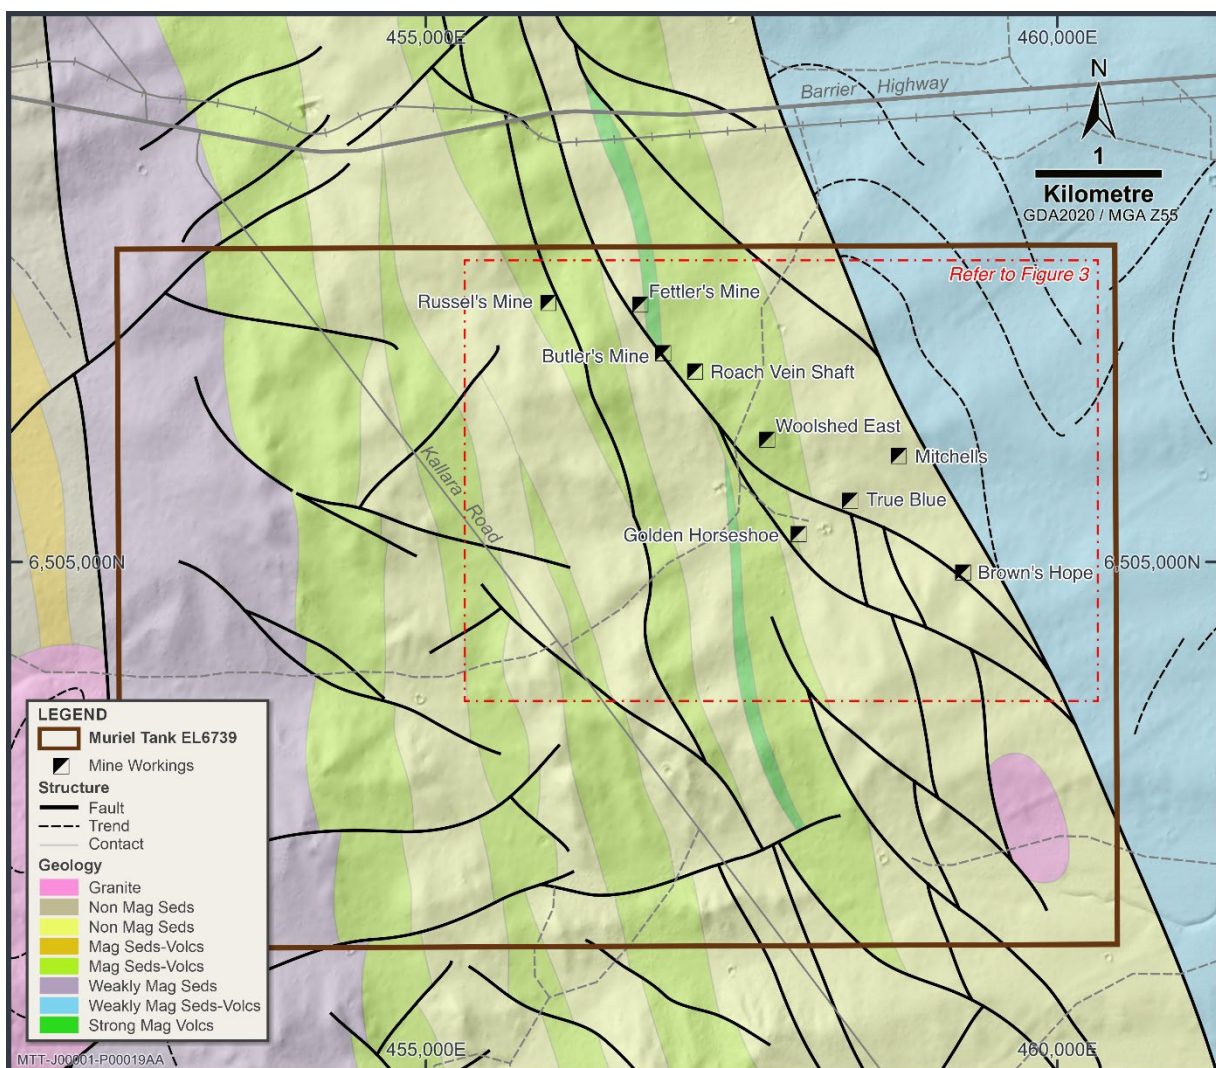

Figure 2: Muriel Tank geology and structure location of historical mines.
The Muriel Tank gold project is located within a major structural zone of the Lachlan Orogen, and is hosted within the Ordovician Girilambone Group metasediments, which locally comprise four main units: (1) quartz vein breccia hosting the gold mineralisation; (2) shale units; (3) a coarse and immature sandstone; and (4) silicified siltstone. These units are cut by steep shear zones up to 4m wide striking 340° (Figure 2).
Historical reports describe two main periods of folding identified within the tenement, with an early stage of tight, upright north-south oriented folding and a later generation of north-northwest steeply dipping folding with axial planes striking 340°. Later structures that host the gold reefs and shear zones are sub-vertical and strike 340-350°, sub-parallel to the later fold event. Younger west-northwest to east-west striking faults are identifiable in magnetics and have a consistent apparent sinistral offset in plan view (Figure 2).